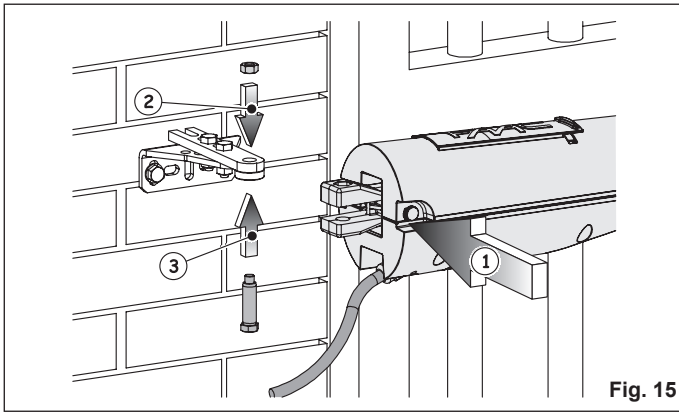

Fig. 15
- Secure the operator to the rear bracket using the appropriate bolt supplied, as indicated in Figure 15.